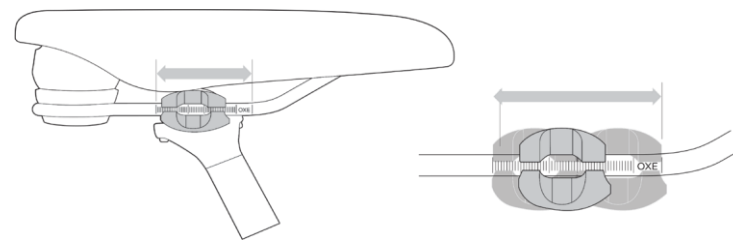

fig. 5
2. Front and back adjustment. The saddle can be adjusted forward or back to help you get the optimal position on the bike. Ask your dealer to set the saddle for your optimal riding position and to show you how to make this adjustment. If you choose to make your own front and back adjustment, make sure that the clamp mechanism is clamping on the straight part of the saddle rails and is not touching the curved part of the rails (fig. 5), and that you are using the recommended torque on the clamping fastener(s) (Appendix D or the manufacturer’s instructions).